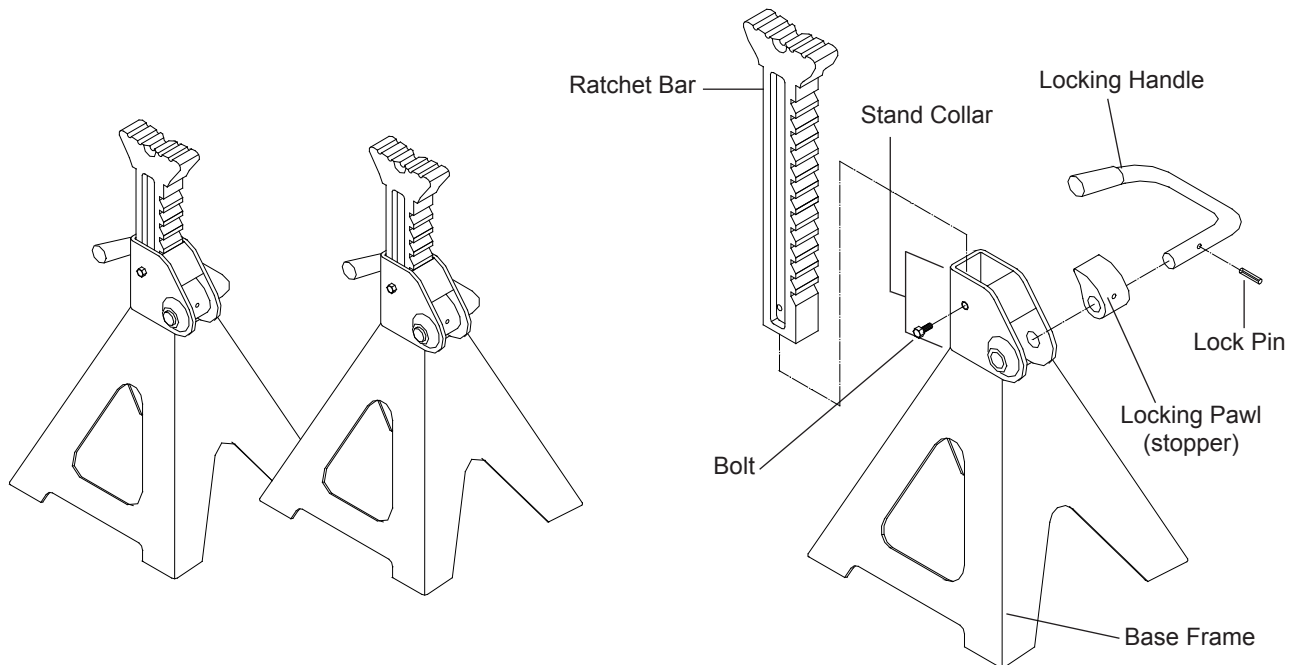

Figure 2 - BH5120 Components
b. For Model BH5120: Ratchet/collar lock is accomplished by tightening the M7.5X20 hex bolt (provided) found on the collar (Fig.2).